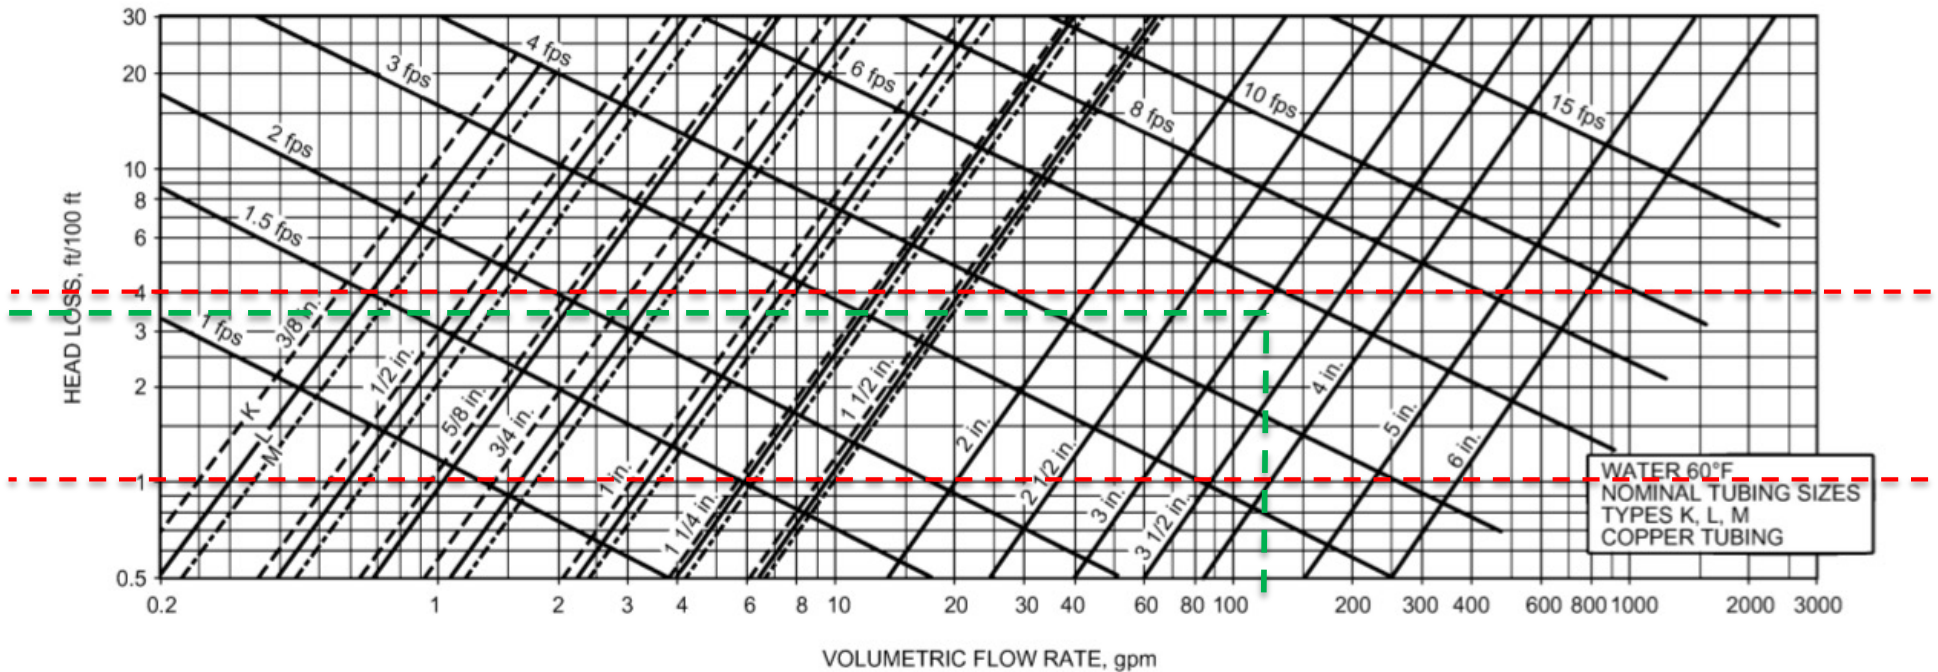

Fig. 15 Friction Loss for Water in Copper Tubing (Types K, L, M)
- Identify the pipe diameter and head loss ft/100-ft of each section (Figure 15 – Chapter 22):